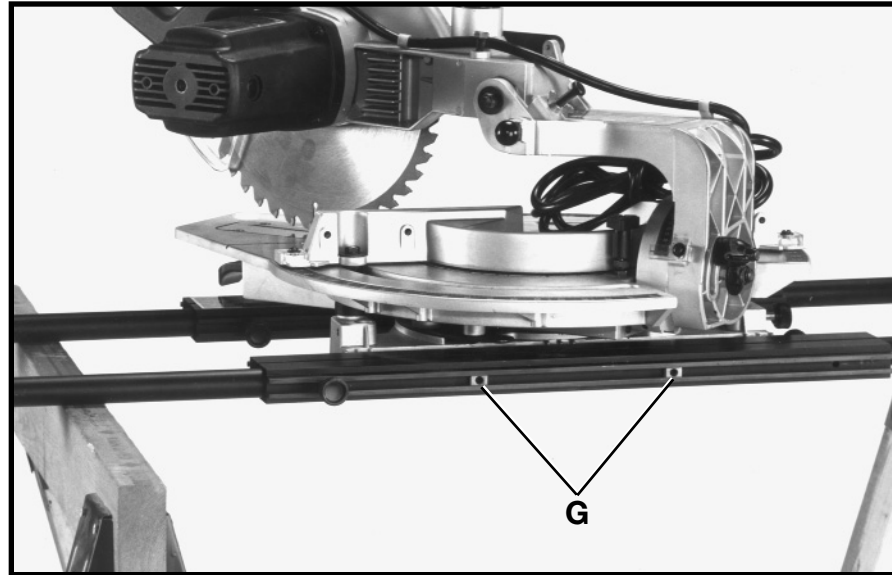

Fig. 62
5. Slide the two nuts (G) Fig. 62, out of the channel to the right. The two nuts remaining in the front channel must be removed in the same manner.